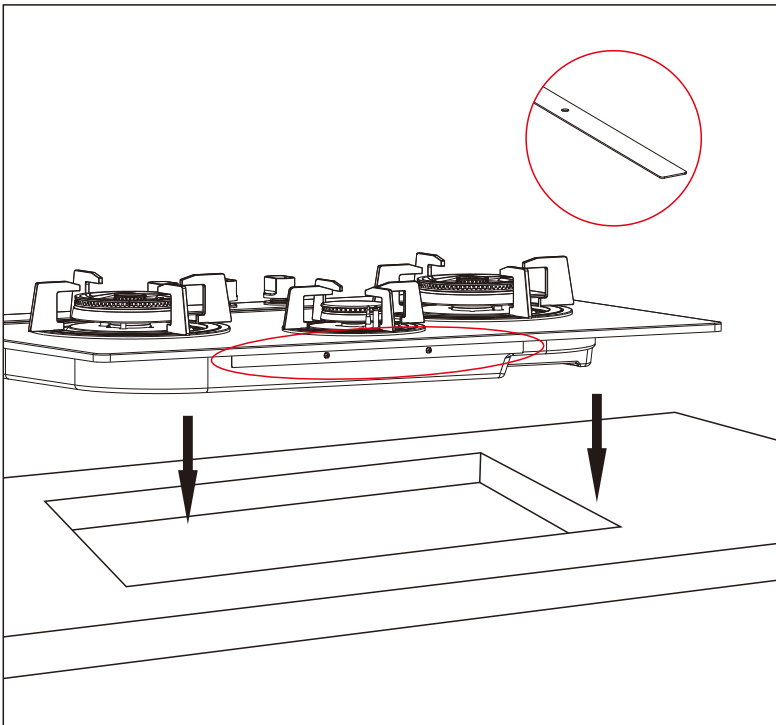

Fig.9
- ✓ within the unit, between the bottom of the cooktop and the upper surface of any other appliance or internal shelf, there must be a clearance of at least 30 mm (Fig.9);
- If there is any gap between the side of the kitchen top and the appliance bottom plate, bend the flexi-strip to stabilize the appliance (Fig.9).